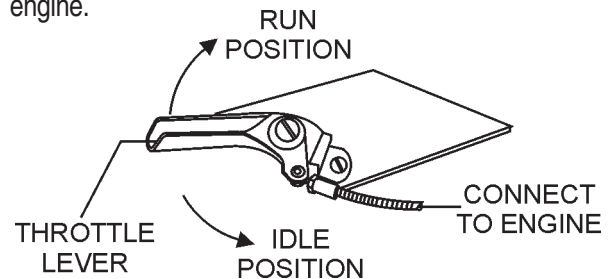

Figure 10. Throttle Lever
1. Set the **throttle lever** (Figure 10) to the idle position by pushing it away from the operator's position towards the engine.